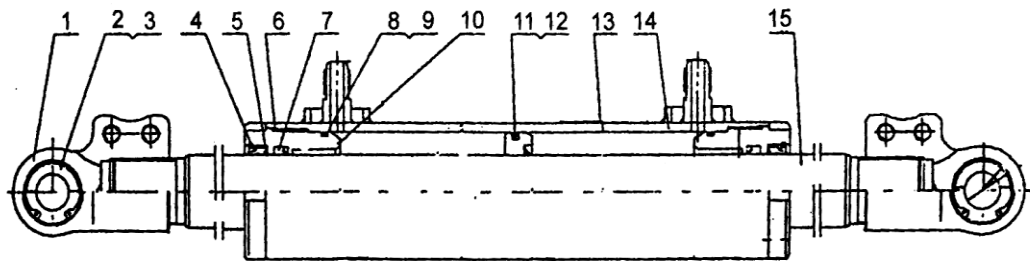

Figure 7-3 Steering cylinder
3.3 Steering cylinder (see Figure 7-3)